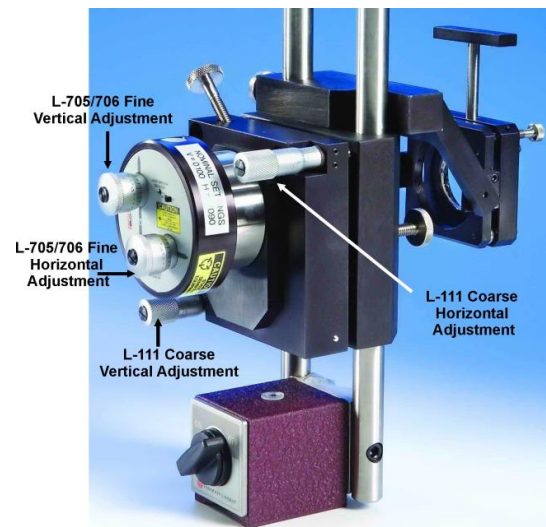
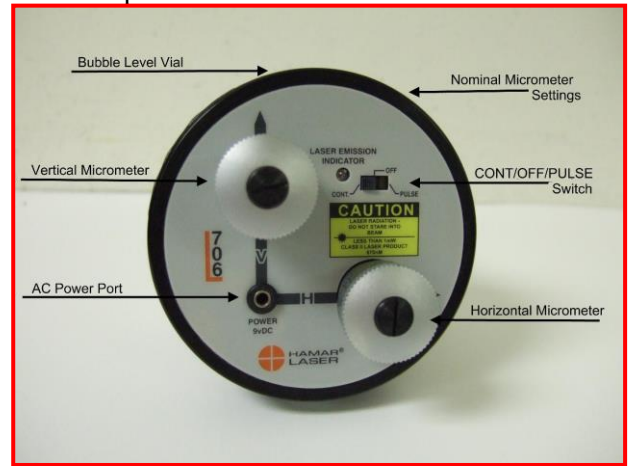

Figure 29 – L-706 Laser and L-102 Beam Translator on L-111 Laser Stand
Figure 31 – L-706 Laser
2. Insert the laser into the L-111 Stand with the level on the top, centered from left to right (see Figure 29).
22. Turn the L-111 Coarse *Angular Pitch* and *Yaw* adjustment knobs (see Figure 29) until the R-1307 reads close to the **V** and **H** *Laser Set Points*. When the adjustment becomes too difficult with the L-111, use the **V** and **H** angular adjustments on the L-706 (see Figure 31) until the values equal the **V** and **H** *Laser Set Points* from Step 21.